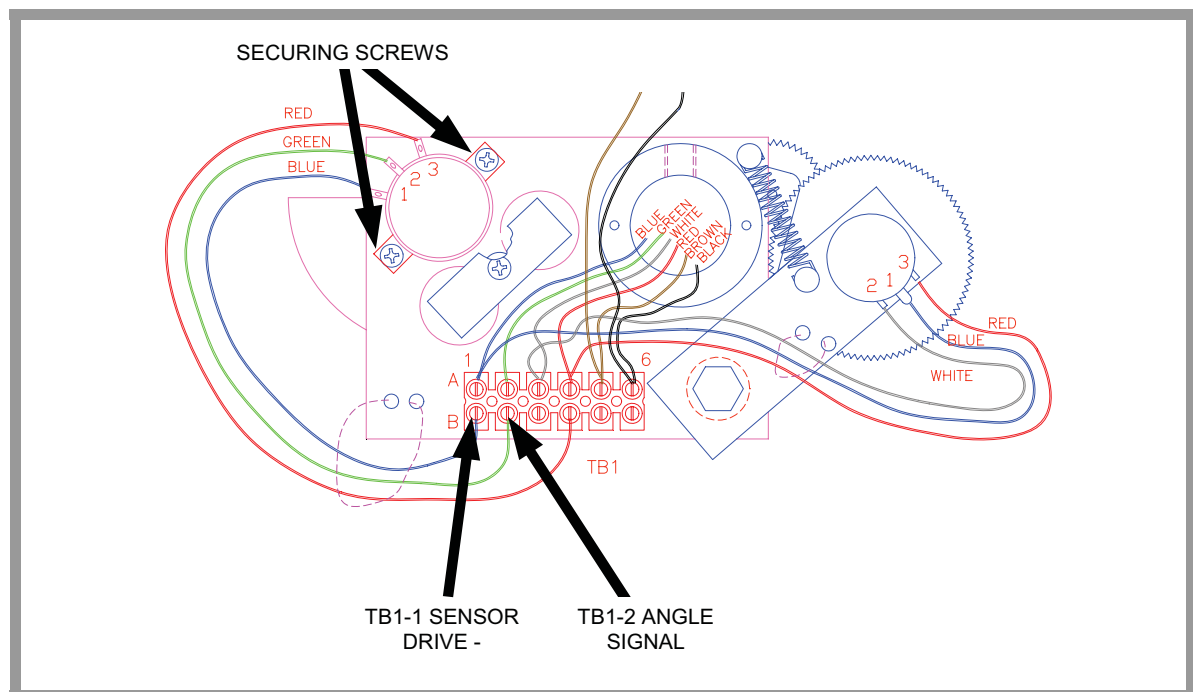

FIGURE 6.7 SENSOR BASEPLATE ASSEMBLY WIRING
3. Measuring the voltage between TB1-2 and TB1-1 (see Figure 6.7), carefully rotate the potentiometer until the voltage measures 0.4 volts. Rotating the sensor counterclockwise will increase the voltage. Rotating clockwise will reduce the voltage. Only fine adjustments are required. Do not touch the pendulum hanging behind the sensor assembly, as this will affect the reading.